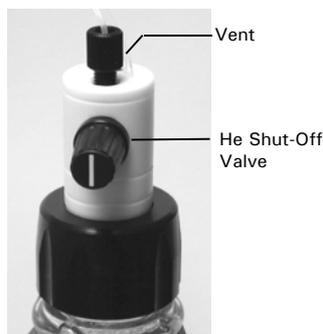

FIGURE 3-29. The He Shut-Off Valve (Opened Position)
- a) Close the Shut-Off Valves (FIGURE 3-29) and apply 4 bar (60 PSI) of He pressure.